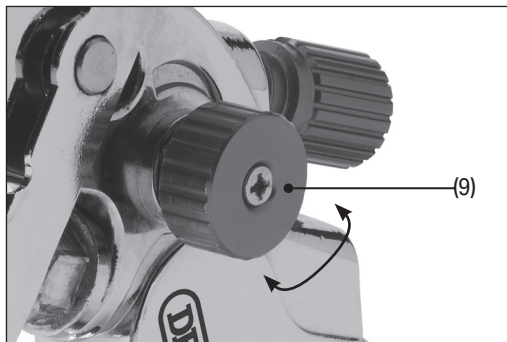

Fig. 12
The spray control dial (9) adjusts the shape of the paint jet released from the nozzle. The spray control dial can be rotated more than 360° (Fig. 12).